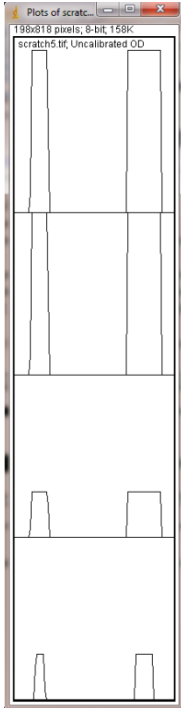

Figure 14. Profile plot of each lane (arranged with lane 1 at the top, lane 4 at the bottom). You may need to scroll through the window to see all of the lanes.
8. When you have placed the last lane (and pressed "2" to set it in place), you can press "3" to produce a plot of the selected lanes (see Figure 14).